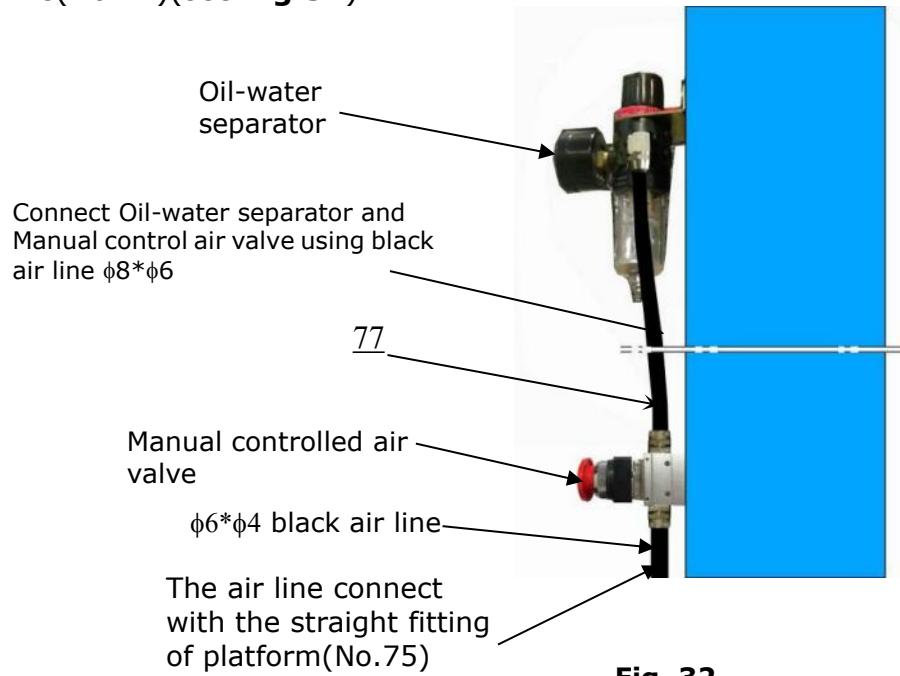

Fig. 32
- Note: the actual length of air line can be cut by installer.(See Fig. 31, Fig. 32).
5. Connecting Oil-water separator and manual control air valve with $\phi 8 * \phi 6$ air line(No.77)(see **Fig.32**)